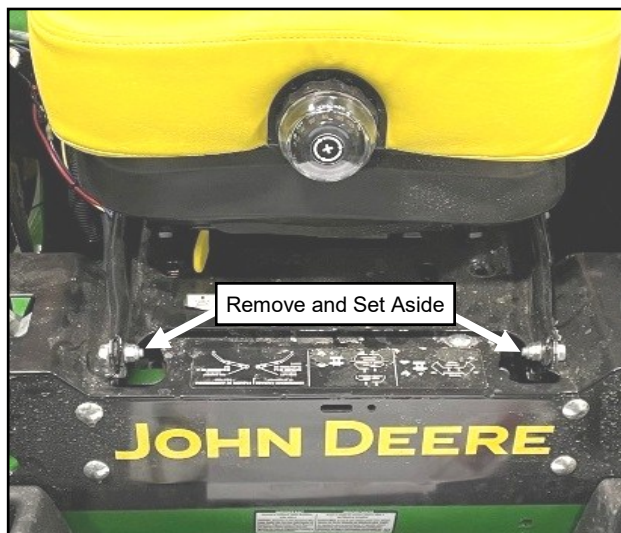

Fig. 1.20 (Remove Front Hinge Bolts)
1.20 Remove and save seat frame hinge bolts and nuts per Fig. 1.20. Remove seat from vehicle.